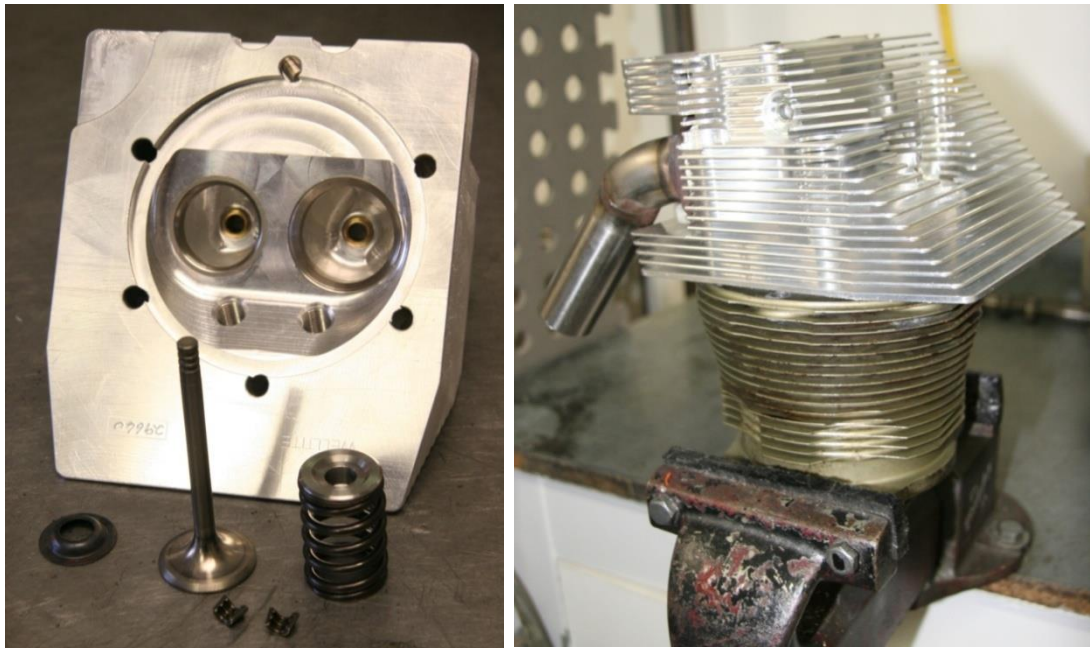

Figure 97 – Valves Assembly, Cylinder Head / Cylinder Lapping
- If second-hand cylinder heads are being used they must be lapped to seal onto the cylinder spigot. The process is similar to grinding a valve – valve grinding paste is applied to the cylinder spigot and the head rotated against it. An old, unservicable cylinder, held in a vice, should be used for this task. This step is not necessary with new heads. Figure 97 refers.